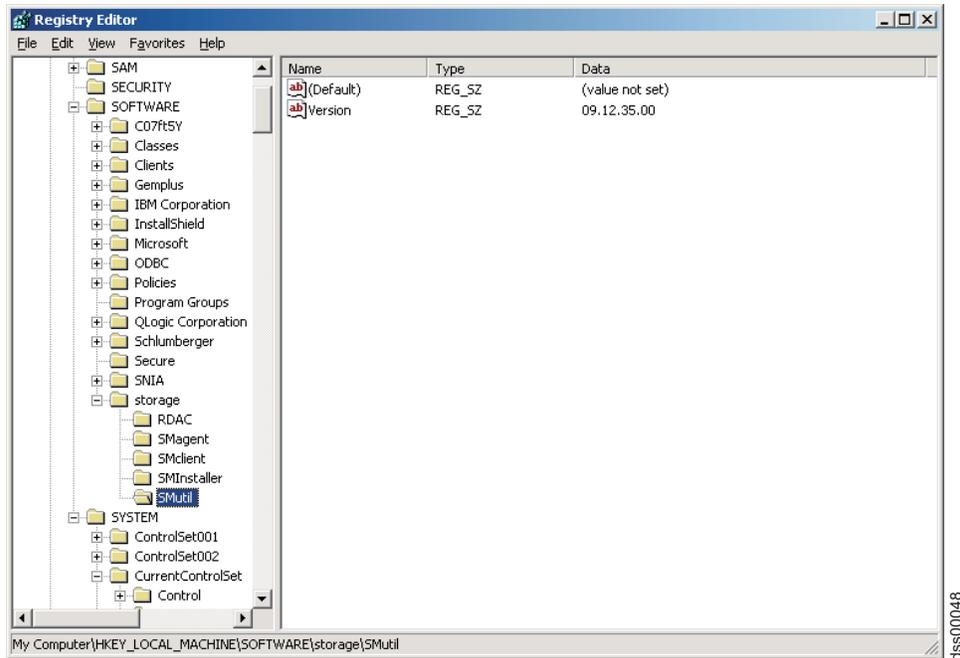

Figure 19. Registry Editor window
3. For each package that you installed, there would be a folder under the \HKEY\_LOCAL\_MACHINE\SOFTWARE\Storage key. Click on that folder name and look for the Version data field in the right window pane. The Version data field will have the correct version of the host software package that you installed. Record these versions for future reference. For example, Figure 19 on page 74 shows that all four host-software packages were installed in this server and the version of the SMUtil package is 09.12.35.00.